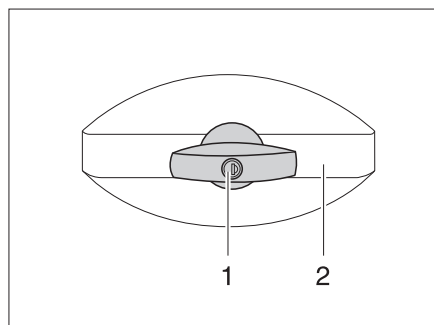

Fig. 31 Flap lock, elliptical, locked
- Insert the key into the locking cylinder (Fig. 31,1) and turn a quarter turn anticlockwise. Lock handle (Fig. 31,2) is released.